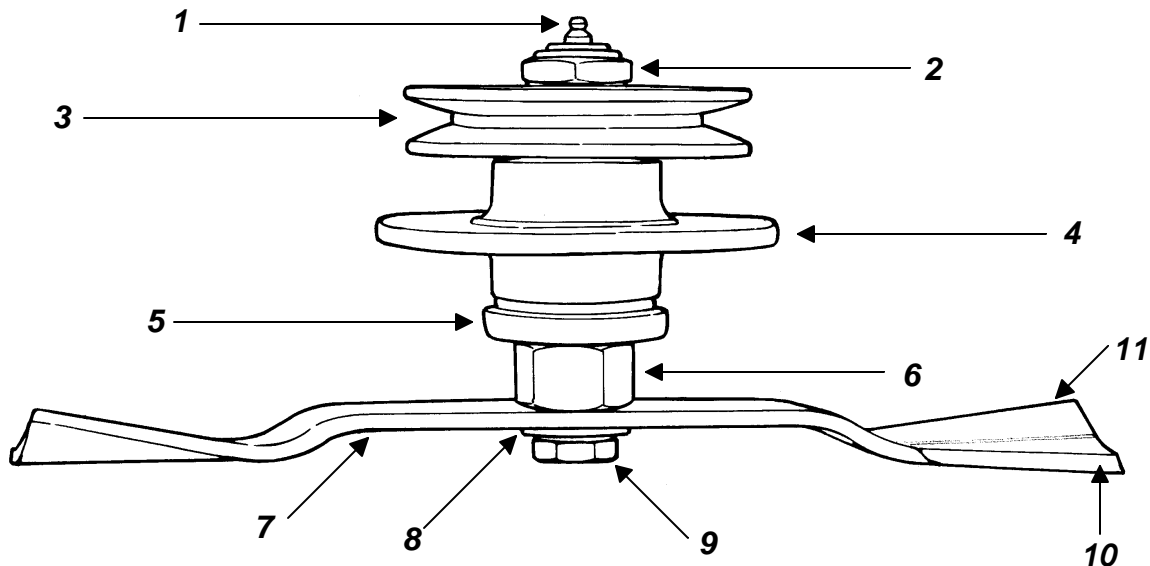

Fig. 10
1. the blade turns in a **counter clockwise** direction when viewed from the bottom of the deck. The cutting edge must be towards the direction of rotation. The lift wing of the blades is closest to the deck and the cutting edge away from it (**see fig. 10**).
2. Install the cup washer (**see fig. 10**) over the blade bolt and secure the blade in place as described above.
2. Remove the nut holding the pulley to the spindle shaft (see fig. 10).
6. Reassemble in reverse order **ensuring that the nut securing the top pulley (see fig. 10) is tightened to 108 lb.ft.**